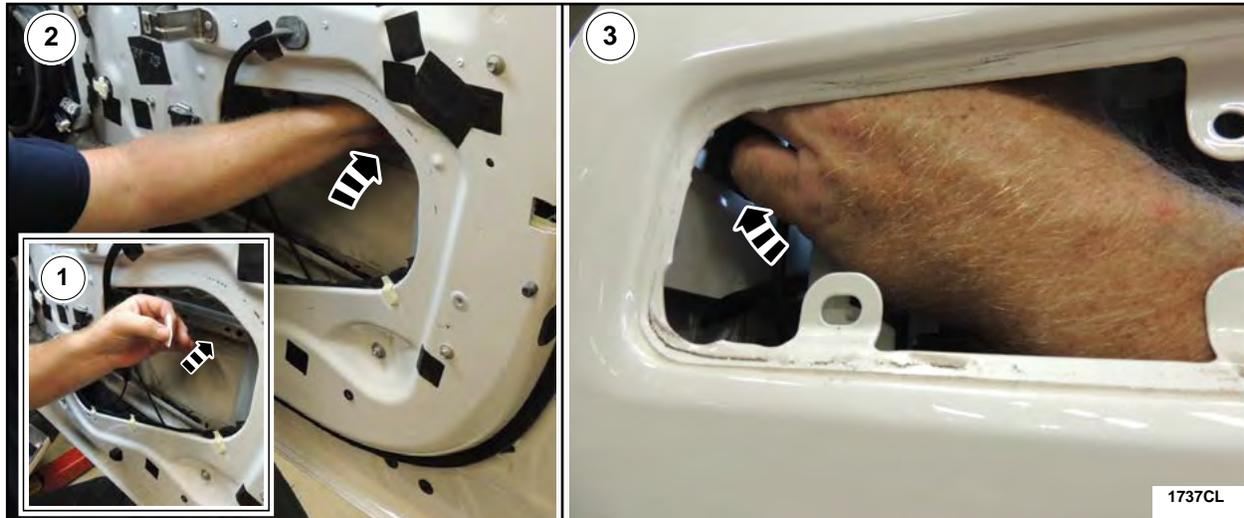
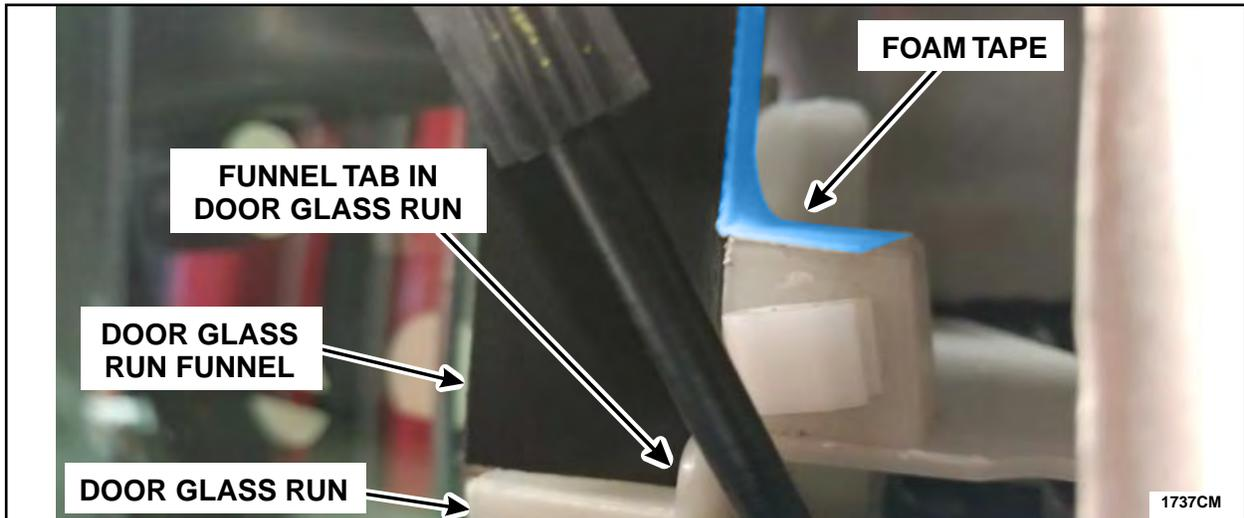

FIGURE 26
FIGURE 27
17. Using your hand install the Foam Tape on the top of the door glass run and on the back of the door glass run funnel in the order shown in Figure 26. Figure 27 shows the Foam Tape installed.